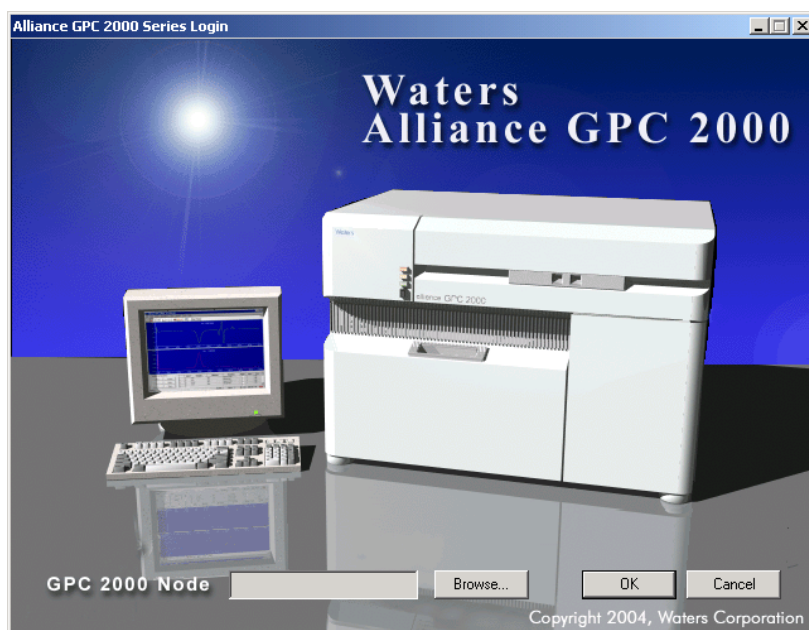

Figure 3-2 Alliance GPC 2000 Series Login Window
6. The user interface starts, and the Alliance GPC 2000 Series Login window appears (Figure 3-2).